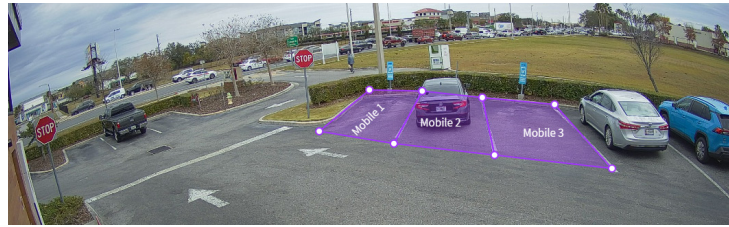

Fig. 5.7
9. Repeat the process for additional mobile spaces (up to four total per camera). Fig. 5.7 shows three mobile spaces configured. For easy identification, it is best practice to assign the space numbers in order (left to right in this example). You can also rename these polygons by clicking inside polygon label.
NOTE: When Pick-Up Zones are adjacent, like the ones shown in Fig. 5.7, the adjacent sides should overlap (i.e., no gaps can exist between the polygons). See first bullet point in Step 13. Gaps can exist if the polygons are not side-by-side (i.e., separated by a parking space, or by at least 3 ft (0.9 m)). Pull-Forward and Mobile spaces can also alternate side-by-side. For example, the layout in Fig. 5.7 could be configured with two Mobile spaces and a Pull-Forward space in between (the space currently occupied by Mobile 2).